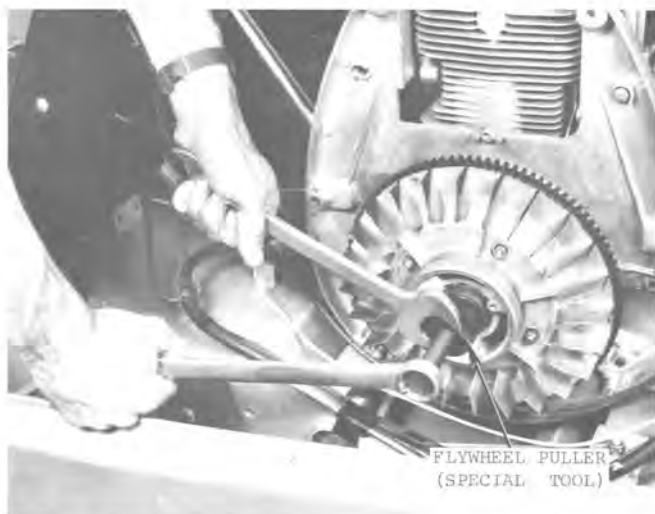
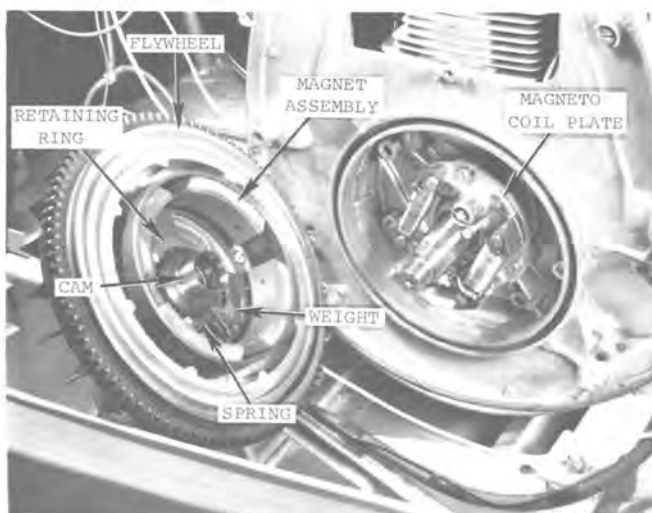

Fig. 35 — Removing Flywheel from Crankshaft
Fig. 36 — Flywheel and Magnet Assembly Removed from Engine
b. Use flywheel puller (special tool no. 444.31-329-0) to remove flywheel as shown in Fig. 35. Fig. 36 shows the flywheel assembly removed and identifies the magneto parts contained within it.